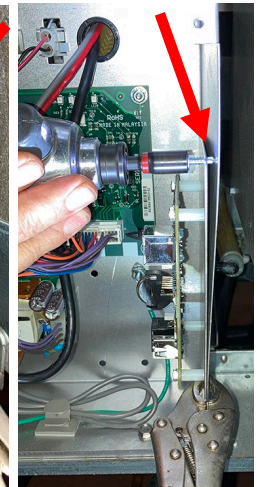

Figure 17
15. Using drill point screws, attach the KCCM mounting plate with KCCM board to the right side of the FIB box as shown (see Figure 17).